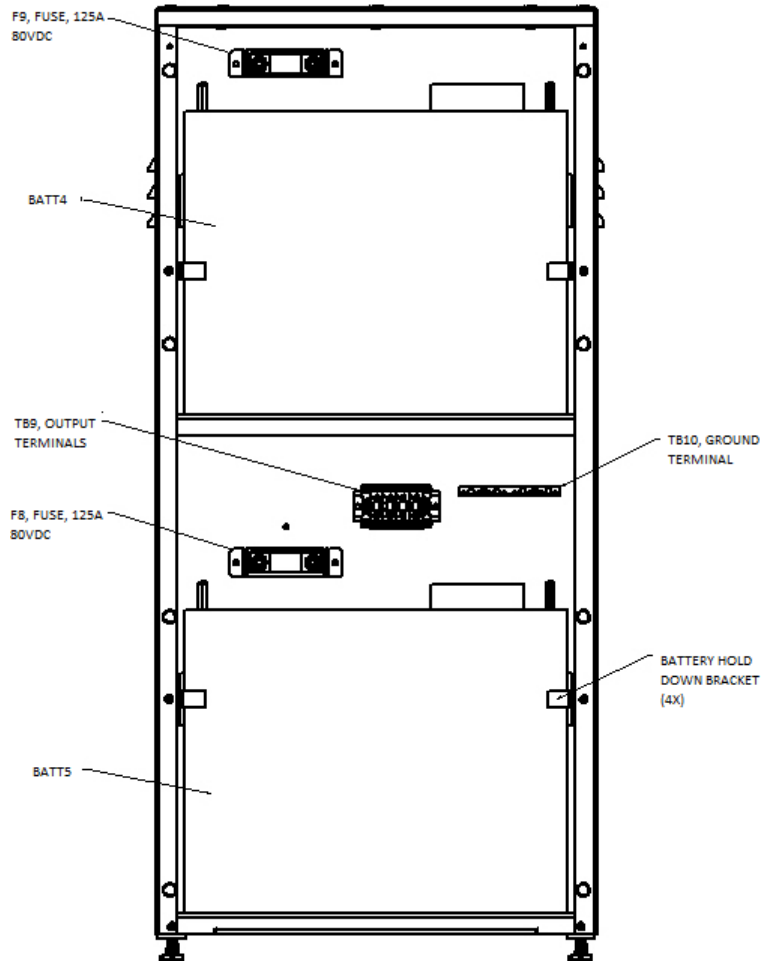

Figure 14
The battery cabinet, NV24, comes with 4AWG wire. Connect the wire to the output terminals on the battery cabinet. Torque to 32 in-lb. (3,7Nm). See figure 14.
- Rotate battery hold down brackets 90 degrees so that the bracket is against the face of the battery. Tighten bracket in place (see figure 14). Both NV24 batteries have these brackets on both sides of the batteries.
- Connect the black battery wire to each battery negative terminal using the terminal hardware provided with each battery. Each battery has two (2) terminals marked as '-'. Either terminal is acceptable to install the black battery wire. Torque the battery terminal to 160 in-lbs. (18Nm).
- Connect the red battery wire to each battery positive terminal using the terminal hardware provided with each battery. Each battery has two (2) terminals marked as '+'. Either terminal is acceptable to install the red battery wire. Torque the battery terminal to 160 in-lbs. (18Nm).
- Connect the CAT5 ethernet cable to the battery RS485 port. There are two (2) RS485 ports. The upper battery has one (1) CAT5 cable to install. Either RS485 port on the battery is acceptable. The lower batteries have two (2) CAT5 cables to install in each of the RS485 ports.